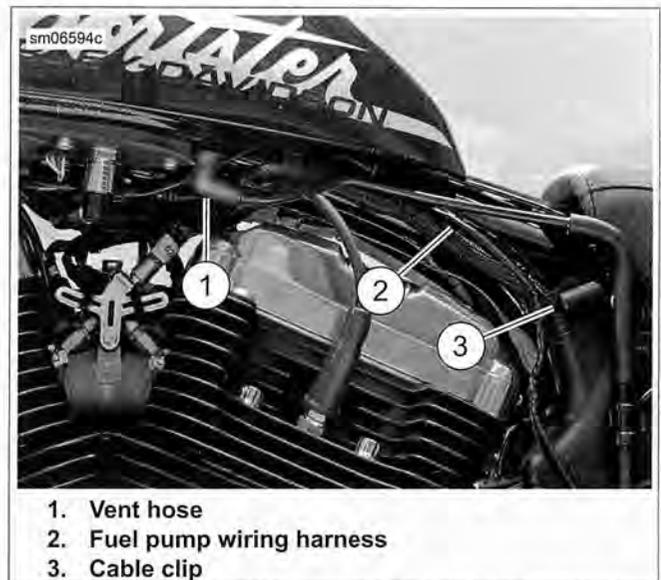

Figure 4-7. Fuel Tank Vent Hose
4. See Figure 4-7. Remove vent hose (1) from fuel tank vent nipple. Remove cable clip (3) securing fuel pump wiring harness (2) to mounting boss on H-bracket.
7. Tighten both front and rear fuel tank mounting screws to 15-20 ft-lbs (20.4-27.1 Nm). Install protective caps (6) on screw ends.
8. See Figure 4-7. Install vent hose onto fuel tank vent nipple.
2. See Figure 4-7. Install vent hose onto vent nipple on fuel tank.